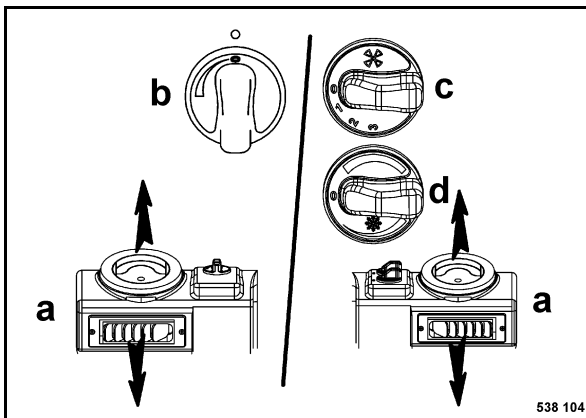

Fig. 72
- Turn the air nozzles (a) (Fig. 72) to direct the air flow down into the footwell.